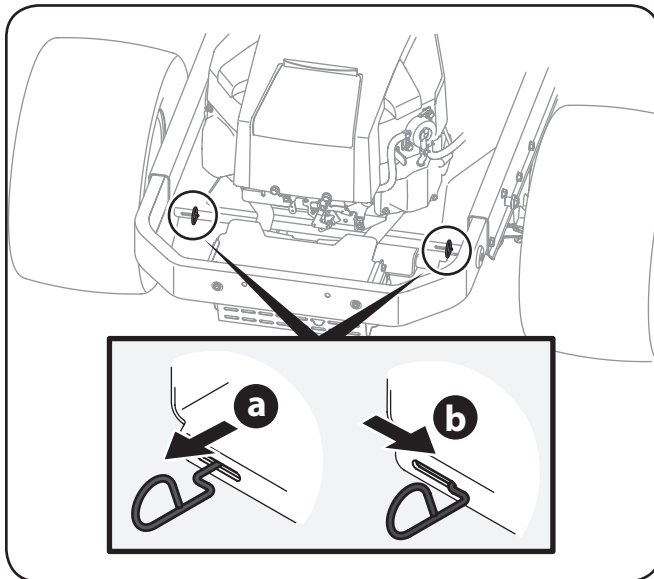

Figure 3-1
4. Engage the transmission bypass rods on each side of the tractor; then carefully roll the tractor off the shipping pallet. The transmission bypass rods (one for each the RH and LH transmission) are located on the rear of the tractor, just inside each rear wheel. Engage the bypass rods by pulling each one out and to the right then letting it return to lock it into place. See Fig. 3-1.
5. Disengage the bypass rods after rolling the tractor off the pallet. See Fig. 3-1.